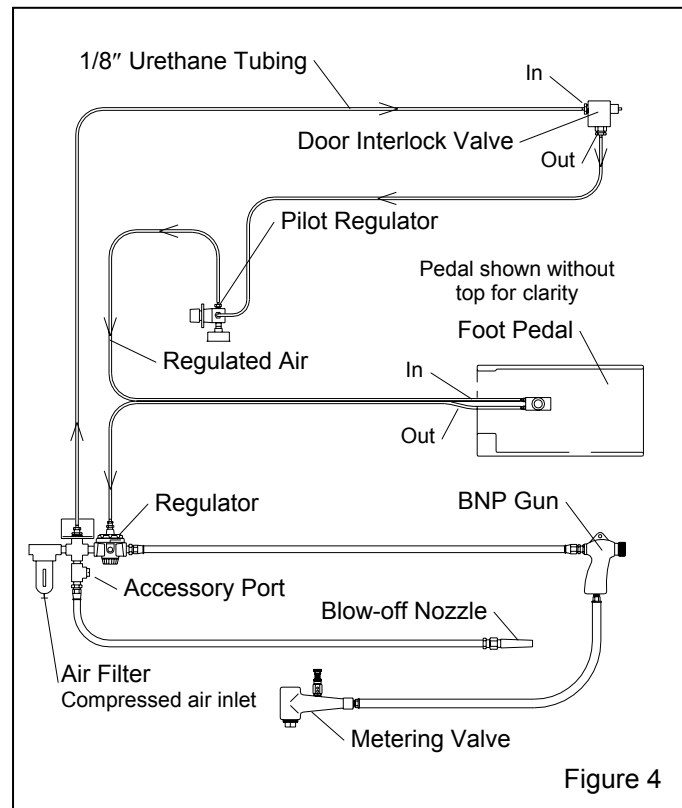

Figure 4
2.1.3 See Figure 1 (and 2 for optional reverse pulse collector) for the general arrangement and Figure 4 for control line schematic. Select a location where compressed air and electrical services are available. The cabinet location must comply with OSHA and local safety codes. Allow for full access to all doors and service areas, and for efficient handling of large parts. Provide enough clearance in front of the dust collector to remove the dust drawer without tipping. Ideally, locate the reclaimers directly behind the cabinet with the media hose connection toward the cabinet with as few bends as possible. Determine the best location, and position all units before final assembly.